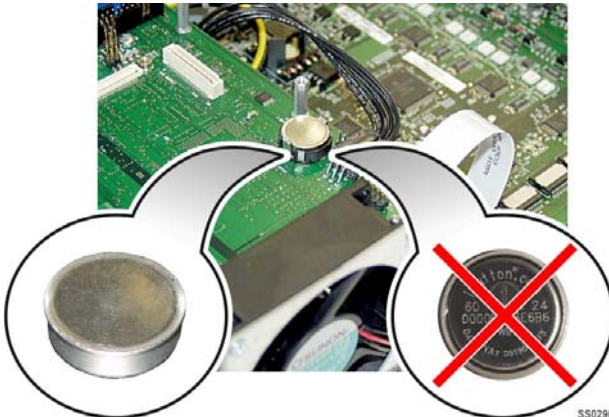

Figure 43: Installing the System i-Button
2. Insert the system i-Button in the twin tab connector located on the main board (see Figure 43) or on the controller card, for the AX, CX II and CXi II directly behind the external MMC slot position (see Figure 6, Figure 9, and Figure 10 beginning on page 40).